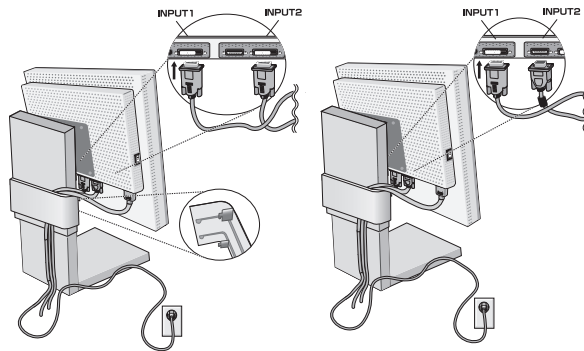

Figure C.1
3. Connect the 15-pin mini D-SUB to DVI-A signal cable to the connector on the back of the monitor into Input1 or the DVI-D signal cable to Input2 (**Figure C.1**).
Gather the cables and attach them to the stand with the cable cover. The cable cover can be attached on the front or the back of the stand (**Figure C.1, C.2**). Please check that cables do not interfere with operation of the stand (tilt, raise, lower and screen rotation).
4. Connect one end of the power cord to the AC inlet on the back of the monitor and the other end to the power outlet (**Figure C.1**).